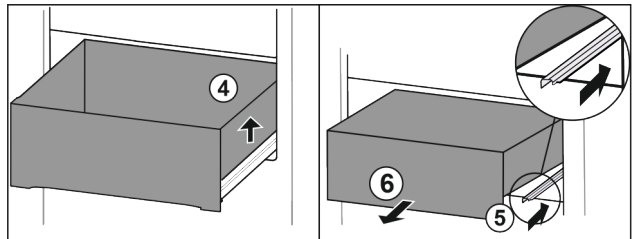

Fig. 97
- ▶ Lift drawer on the right. Fig. 97 (4)
- ▶ Insert right rail. Fig. 97 (5)
- ▶ Remove drawer to the front. Fig. 97 (6)